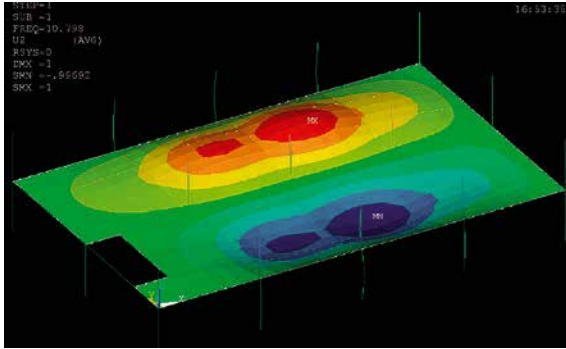
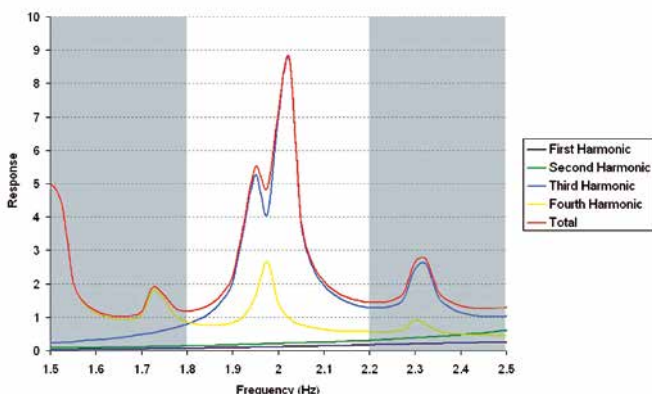

Figure 2: Example output from FE modelling (first floor of SCI office).
Figure 3: Example of resonant response at a range of pace frequencies.
The first stage in this process involves producing or adapting a finite element (FE) model (such as that shown in Figure 2), and advice is given about suitable modelling procedures, such as boundary conditions, element types and how to model steel-concrete composite floors. Once the model has been established and a modal analysis has been performed by the FE software, several outputs are required to calculate the floor response using modal superposition. The outputs, their significance, and how to obtain them (if they are not easily available) are detailed in the publication. Formulae for determining the response in terms of acceleration and a response factor are given for both low frequency floors (where the fundamental frequency is below 10 Hz, and the floors may be subject to both resonant, as shown in Figure 3, and transient response) and high frequency floors (where the fundamental frequency is over 10 Hz and the floor will only respond transiently), which include the methods of frequency weighting described above. Once the response has